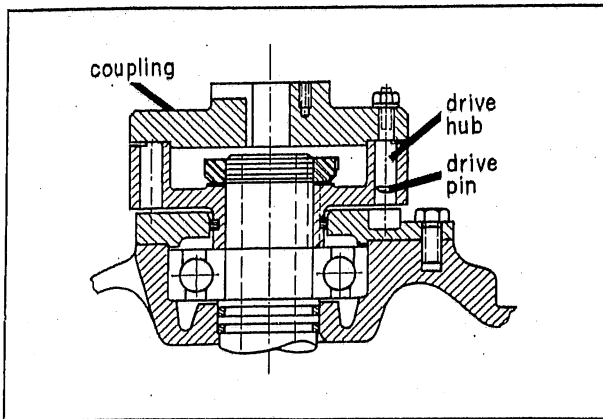

Figure 5 Pin Type Coupling
2. Clutch Type - These motors are equipped with a disengaging clutch that consists of a coupling and a drive hub. The drive hub is keyed to the motor shaft, and the coupling is keyed to the pump shaft and attached through a screw to the adjusting nut. The coupling centers on the drive hub by means of a machined fit. The coupling is driven by two pins attached to the coupling and engaging corresponding holes in the drive hub. Disengagement of the clutch is caused by a lifting of the pump shaft which separates the pins in the coupling from the holes in the drive hub. Refer to Figure 5.